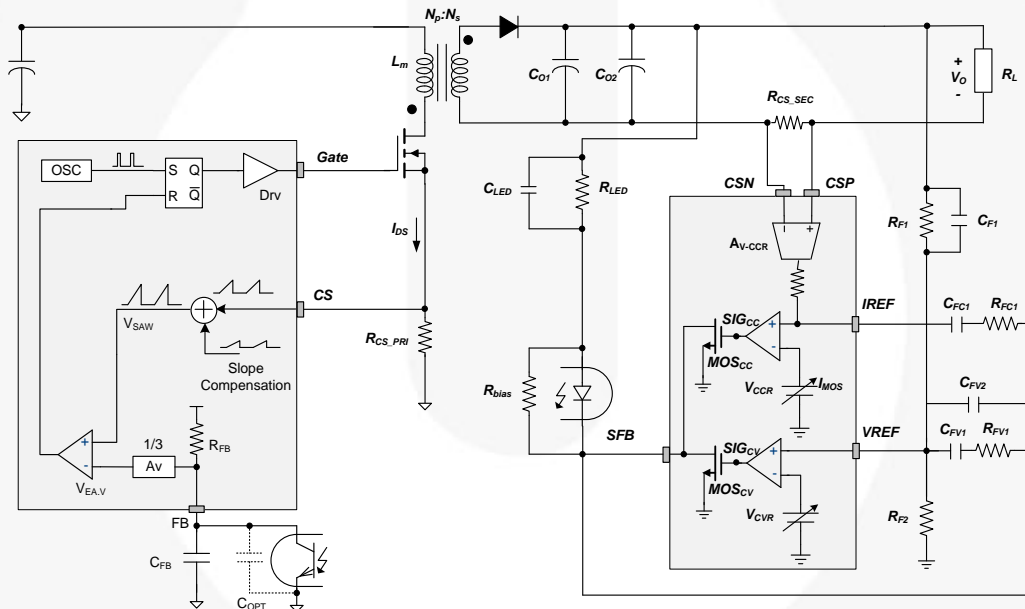

Figure 2. Internal PWM Control Circuit
Figure 2 shows the primary-side internal PWM control circuit of the FAN501AMPX and the secondary-side regulator circuit of the FAN6100M which consists of two MOSFETs in an open-drain configuration for Constant Voltage (CV) and Constant Current (CC) regulation.
While the primary MOSFET is turned on, the current I_{DS} through transformer magnetizing inductance rises. V_{CS} is the rising current signal through R_{CS-PRI} . This is added to slope compensation signal, V_{slope} to generate V_{SAW} . V_{EA} is compared to V_{SAW} to determine the duty cycle. As seen in, Figure 2 output of comparator is used as a reset signal of flip-flop to determine the MOSFET turn-off instant.